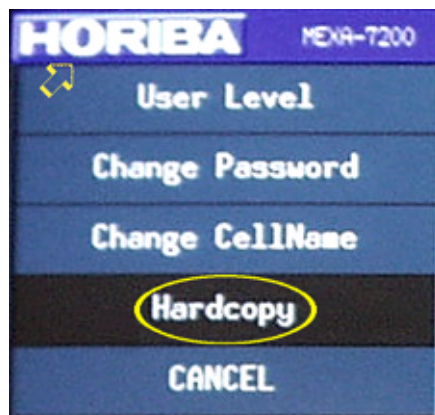

Figure 48
- 160 Click on “Hardcopy.” See the circle in Figure 48.